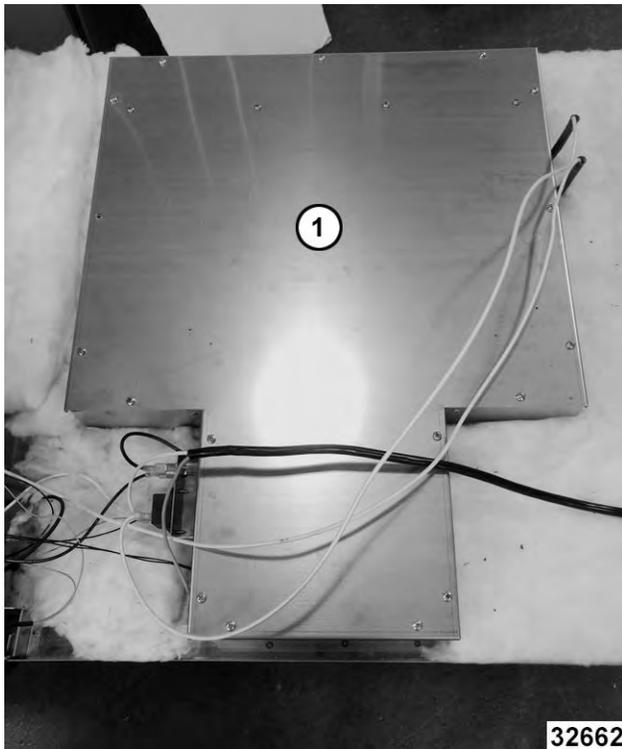

Fig. 11
4. Remove inside access cover (1, Fig. 11).